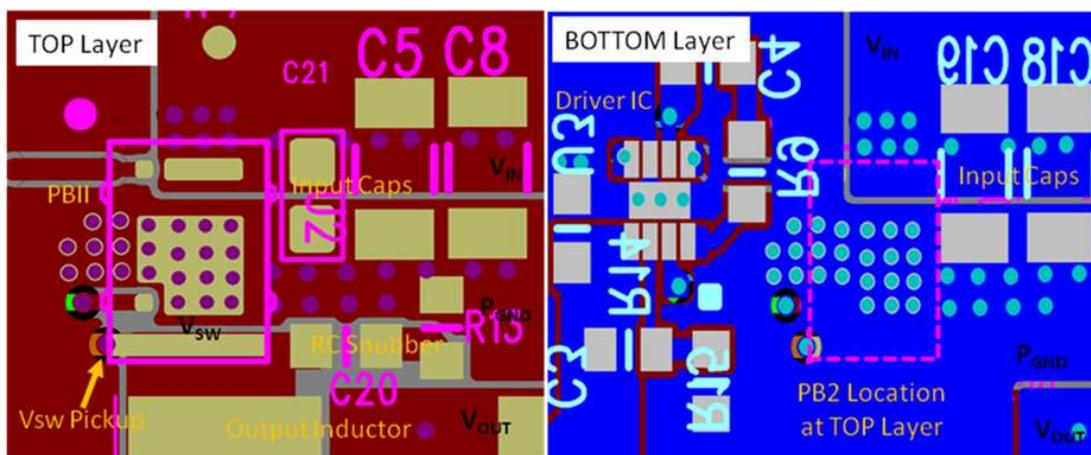

Figure 29. Recommended PCB Layout (Top Down View)
- The placement of the input capacitors relative to VIN and PGND pins of CSD87384M device should have the highest priority during the component placement routine. It is critical to minimize these node lengths. As such, ceramic input capacitors need to be placed as close as possible to the VIN and PGND pins (see Figure 29). The example in Figure 29 uses $1 \times 10 \text{ nF}$ 0402 25 V and $4 \times 10 \mu\text{F}$ 1206 25 V ceramic capacitors (TDK part number C3216X5R1C106KT or equivalent). Notice there are ceramic capacitors on both sides of the board with an appropriate amount of vias interconnecting both layers. In terms of priority of placement next to the Power Stage C21, C5, C8, C19, and C18 should follow in order.
- The switching node of the output inductor should be placed relatively close to the Power Block II CSD87384M VSW pins. Minimizing the VSW node length between these two components will reduce the PCB conduction losses and actually reduce the switching noise level. See Figure 29. ⁽¹⁾
- Use the smallest drill size allowed in your design. The example in Figure 29 uses vias with a 10 mil drill hole and a 16 mil capture pad.